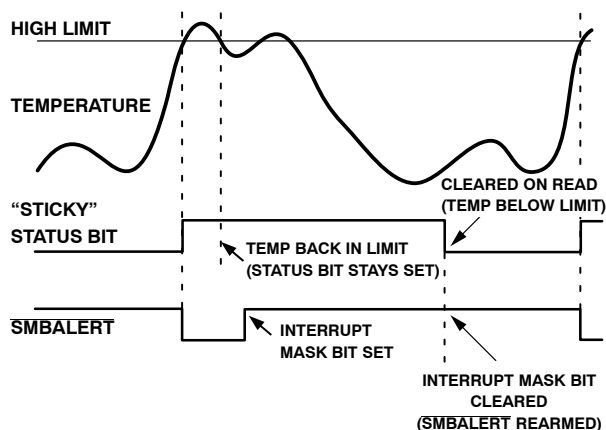

Figure 35. How Masking the Interrupt Source Affects **SMBALERT Output**
7. Periodically poll the status registers. If the interrupt status bit has cleared, reset the corresponding interrupt mask bit to 0. This causes the **SMBALERT** output and status bits to behave as shown in Figure 35.